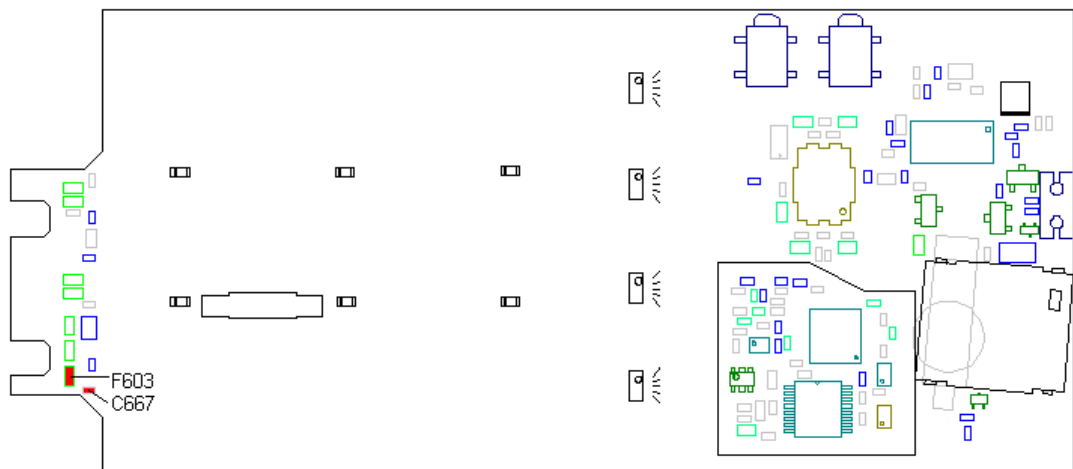

Fig. 6.2.
Measure the resistance of F603 (see Fig. 6.2), it should be >200 kOhm.
- If it is too low, replace F603 and C667 (both are class A and in fig. 6.2).